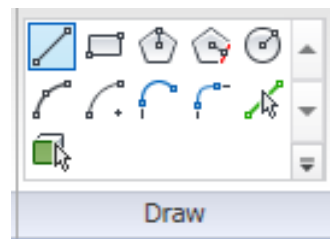

Figure 2-11
2. In the contextual tab>Draw panel, select a drawing tool, such as  (Line), as shown in Figure 2-11. Select points to define the walls using other drawing aids, such as temporary dimensions, alignment lines, and snaps.